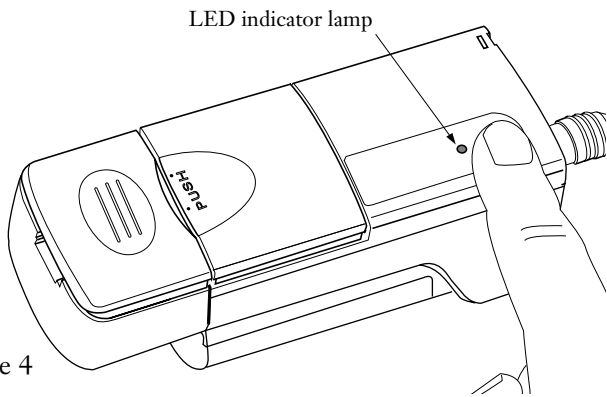

Figure 4
3.5 The automatic "Save" mode will cut the power consumption and lower the stripper's temperature between stripping operations, as indicated by the LED on the top of the stripper (see Figure 4) changing from green to red.
3.7 Plug the DC barrel plug from the AC/DC power supply into the stripper (see Figure 4) and the power supply's blade-type plug into a 85-264 VAC 50-60m Hz power source.
4.1 Turn on the stripper by pressing the green power switch. (Figure 4) The LED indicator lamp will remain red until the unit reaches its operating temperature in approximately 15 seconds and then turn green.